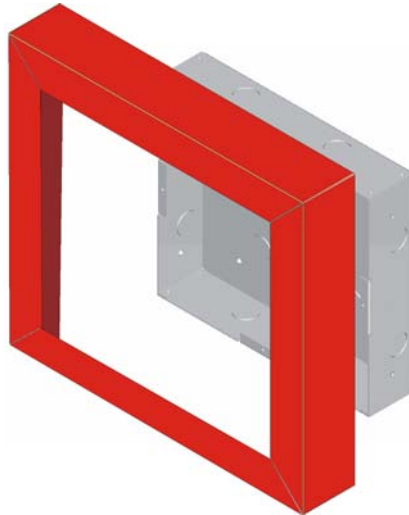

Figure 4.18 Installing Trim Ring
- Place the trim ring over the back box as shown in Figure 4.18.
4. Place the trim ring over the back box as shown in Figure 4.18.